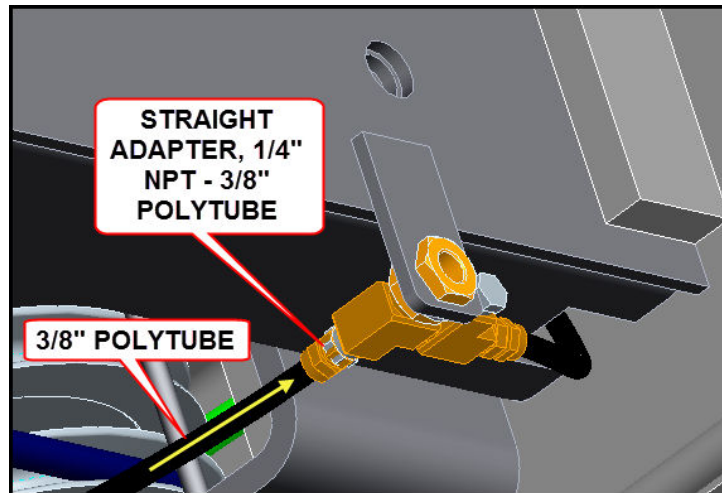

Figure 23. JB Air Connections
4. Connect the 3/8" polytube from the hose guard to the 3/8" fitting at the front of the left deck assembly (jacking beam air bracket). Before this can be done, remove the plug and replace with 1/4" NPT - 3/8" polytube straight adapter located in polybag "C" of hardware kit. **See Figure 23.**